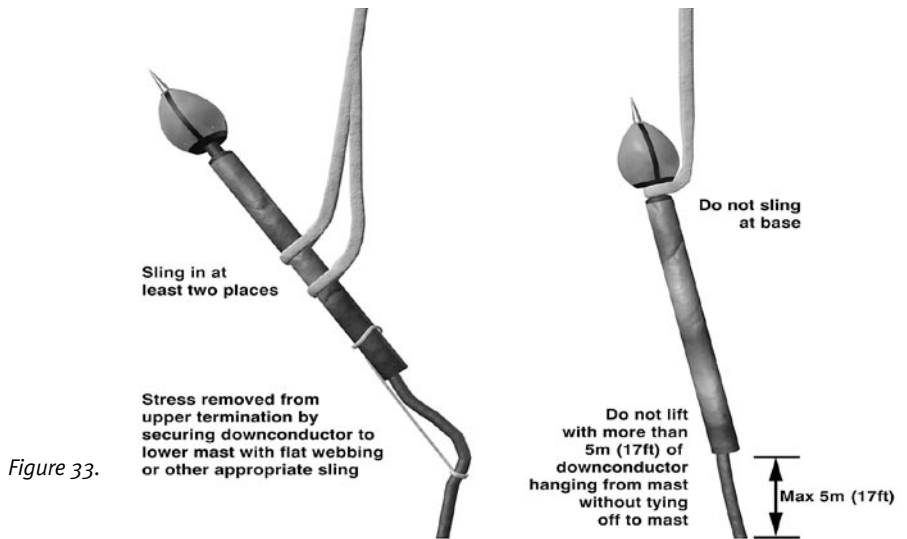

Figure 33.
- When lifting the mast, ensure that the slings or ropes cannot damage the Stormaster ESE terminal, see Figure 33.